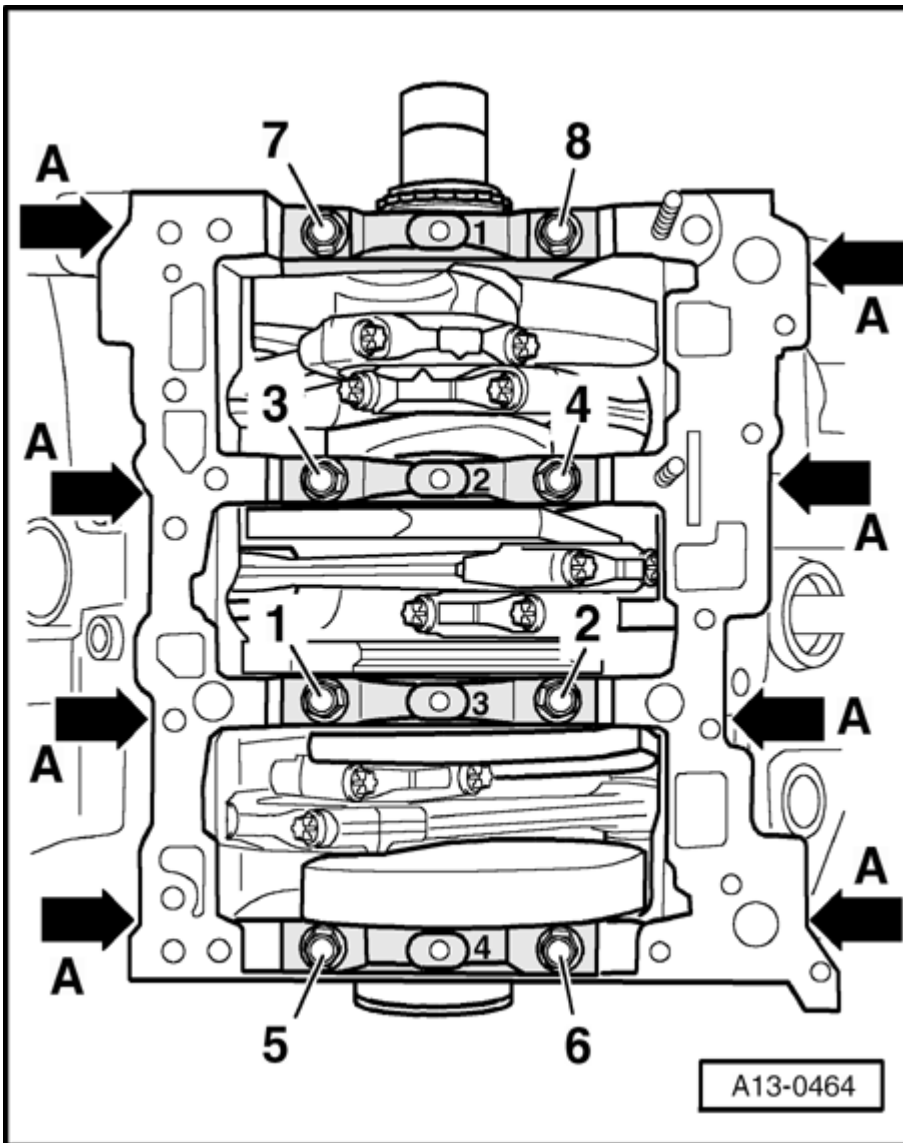

Fig. 186: Installing Crankshaft Bearing Cap
- Tightening sequence. See **Fig. 186**
- Installing. See **Fig. 186**